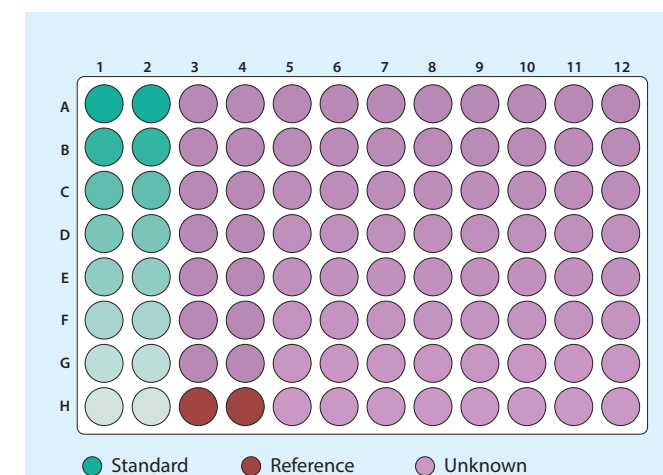

FIGURE 1: Example plate layout for a routine assay run in a 96-well microplate.
- 3 Transfer triplicates of the standards and the unknowns to a sample plate. It is recommended to organize samples in columns, from A–H. Fill at least one well with blank diluted matrix for reference subtraction during data analysis. An example plate map is shown in Figure 1.
- Pipet standards, controls and samples into a black polypropylene microplate (see Figure 1 for a sample plate layout).
- Set up a Basic Quantitation assay. An example plate map is shown in Figure 1. For details on how to set up an assay see the Octet Data Acquisition User Guide. The dynamic range of the assay can be tuned by changing the shake speed and the read time (see Figure 2).